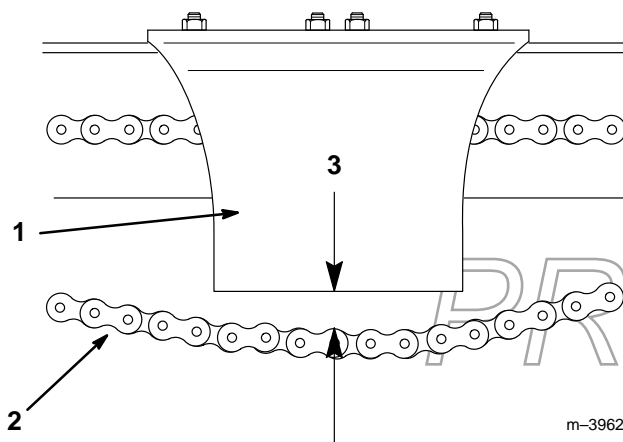

Figure 18
4. Measure the distance between the bottom of the chain guard and the lower chain span (Fig. 18). If the slack in the chain is not within 1–1/2 to 2–1/2 inches, adjust the tension (refer to Adjusting the Tension).
3. Remove the chain guard (Fig. 18).